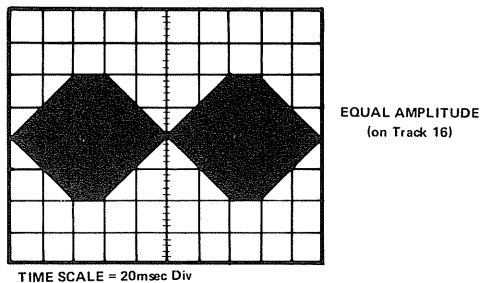

FIGURE 11. "CAT EYES" PATTERN
3. Read track 16 and verify the "cat eyes" pattern as shown in Figure 11. The smaller of the two "eyes" should not be less than 75% amplitude of the other. % = (small lobe/larger lobe) x 100.